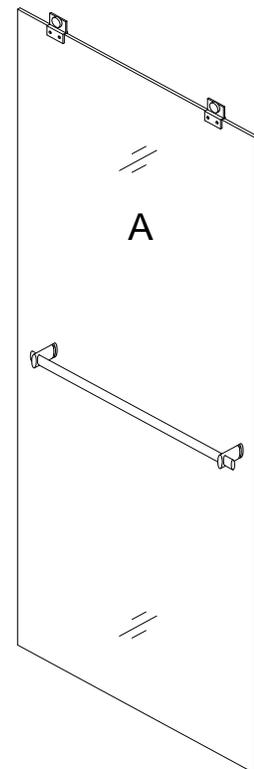
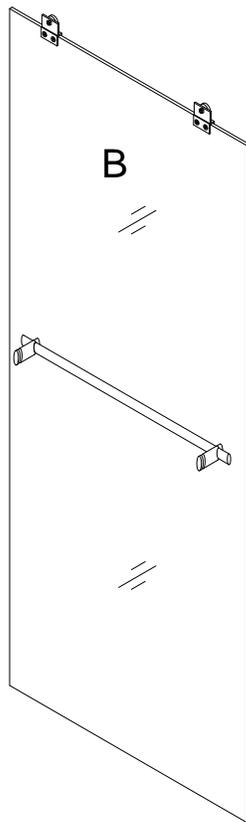

Fig. 11
Fig. 12
8. Secure the **Rollers (#11)** to the top of the **Glass door (#05)**. Mind the direction of the rollers. (See Fig 10.1 and Figs 11- 13)
See Fig. 11 and Fig. 12 for details.